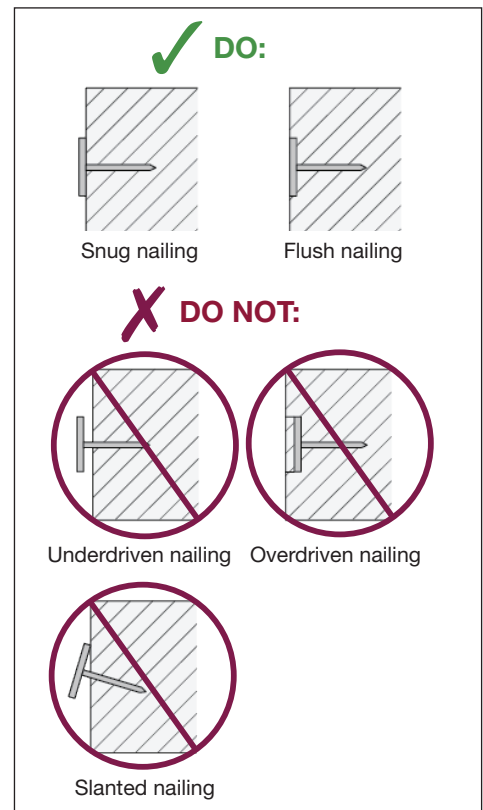

Fig. 18
- Do not overdrive nail heads or drive nails at an angle (Fig. 18)